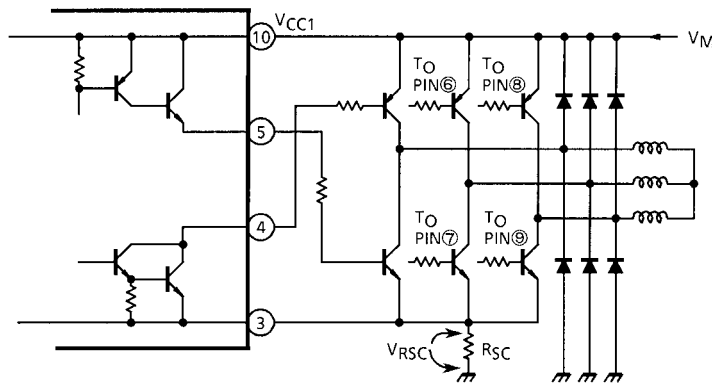

Fig.7 Output circuit
(4) Output circuit
in Fig.7. The upper side of the circuit (pins (5), (7) and (9)) is for outlet, while the lower side (pins (4), (6) and (8)) is for intake. When the built-in output transistors are used, pins (4) and (5), (6) and (7), and (8) and (9) shall be shorted, respectively.
When transistors are externally mounted for increasing the capacity largely, they shall be connected as shown in Fig.7.
If VRSC in Fig.7 exceeds specified voltage ($VRSC = RSC \cdot ISC$), the output circuit is OFF.